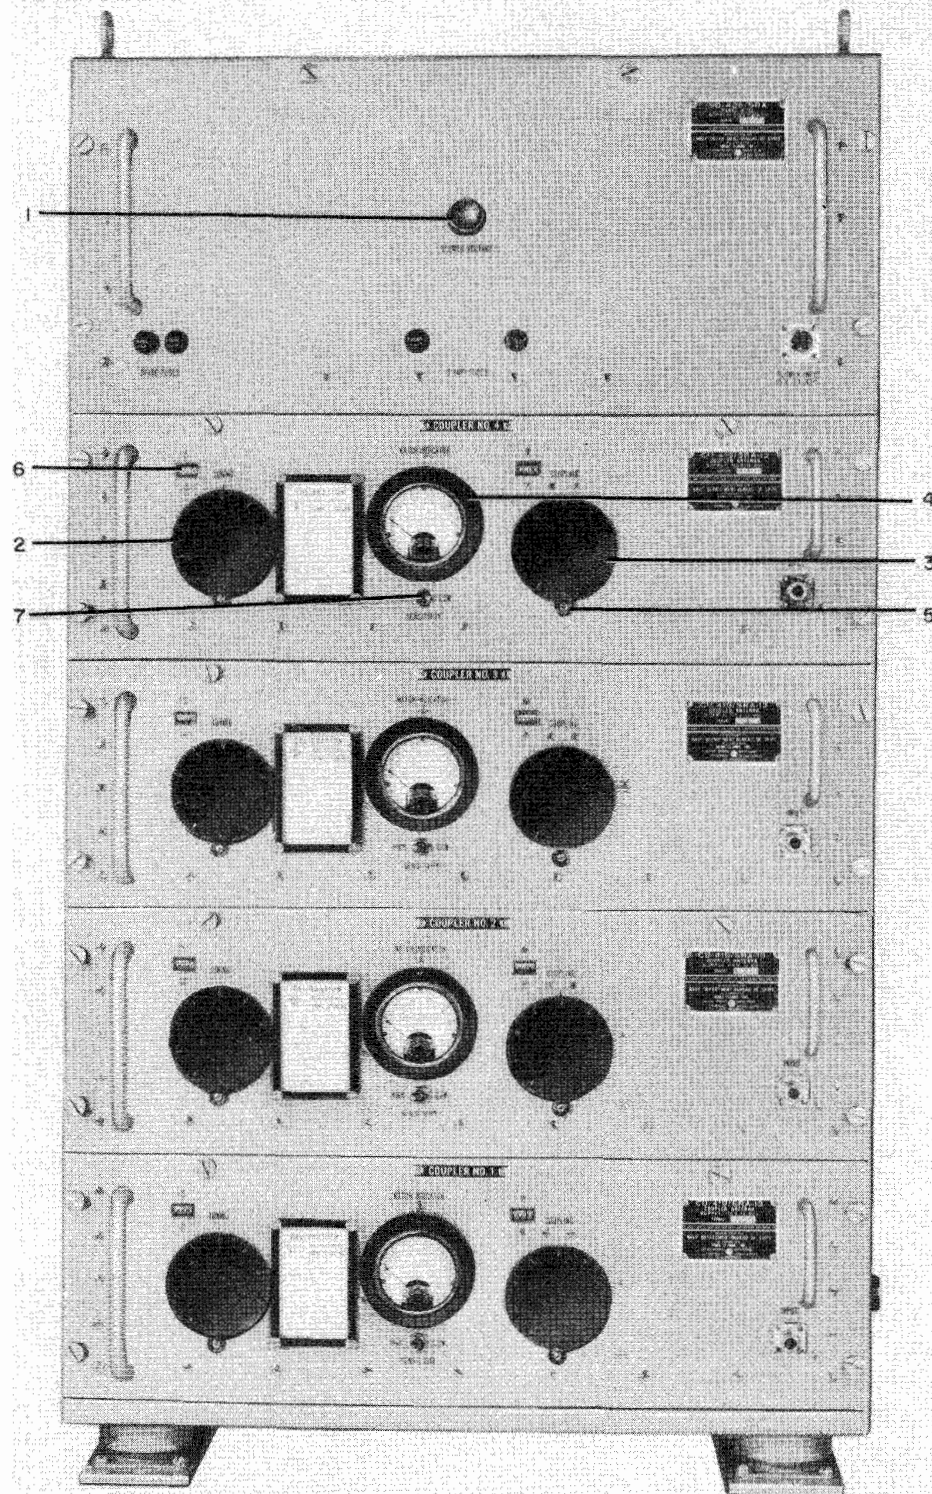

Figure 4-1. Location of Controls
b. OPERATING CONTROLS AND INDICATORS.—All operating controls and indicators are located on the front panels of the equipment. No internal adjustments or settings should be attempted by the operator. The various front-panel controls and indicators are listed in table 4-1 and are shown in figure 4-1.